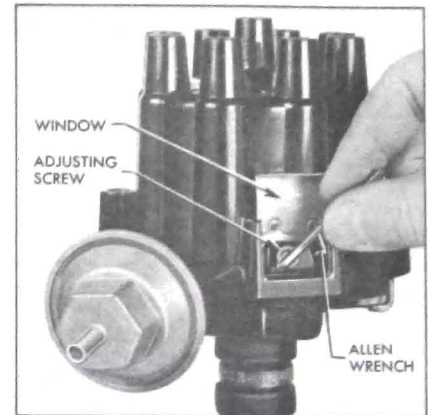

Figure 10-45—Adjusting Contact Point Dwell Angle
3. Start engine. Lift adjustment window and insert 1/8" Allen wrench in adjusting screw. See Figure 10-45. Set dwell angle at 30 degrees.